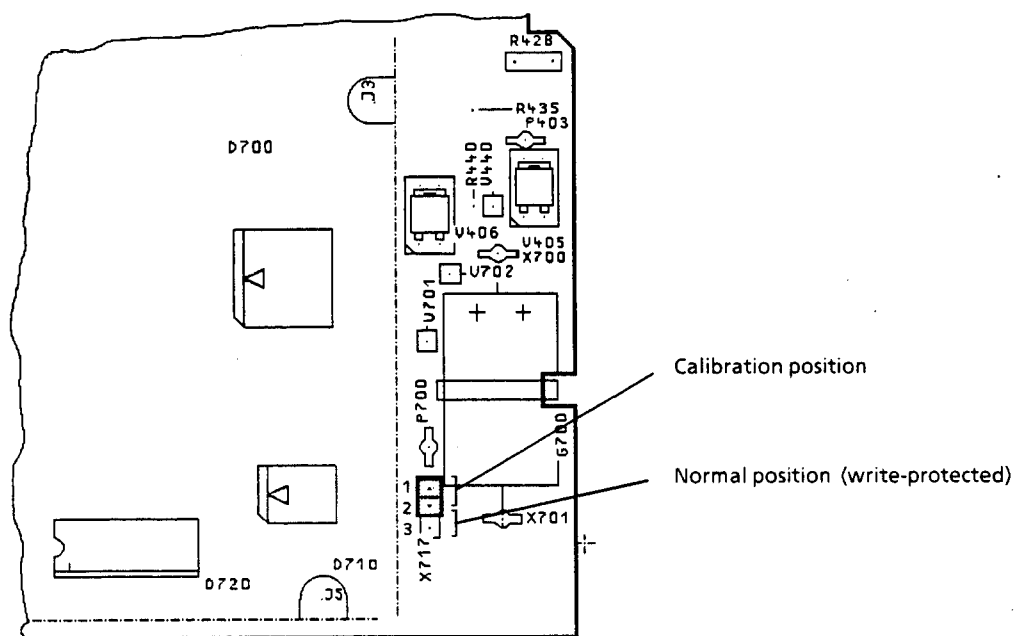

Fig. 6-2 Position of calibration connector X717 (main board)
The correction factors determined during calibration are stored in a write-protected area of the battery-backed RAM. The write-protection must be removed before any calibration or test measurement can be performed. A jumper located on the main board is used to switch off the write protection. **Attention! Observe the safety instructions in chapter 7.3 before opening the instrument.** The main board is easily accessible after removal of the two rear panel feet and the lower instrument cover. Then move the jumper across connector X717 to the calibration position, as shown in Fig. 6-2. After successful completion of the calibration or test measurement, return the jumper to its previous position.
- The menu item "Calibration Dates <D>" permits to read out the dates of calibration of the individual function blocks. It can be called up before or after a calibration. If this item is called up following a complete calibration, the current date is output for all function blocks. In addition, the information whether a complete (C) or only a partial (P) calibration has been performed is also given.
**Attention:** *Before starting any of the above-mentioned calibration functions, be sure that the jumper across X717 has been moved to the calibration position (see Fig. 6-2).*
By pressing the "V" key in the main menu, a mere verification run can be started. This test does not change the calibration data in the RAM. However, the jumper X717 has to be configured nevertheless to the calibration position (→ Fig. 6-2). The verification checks all measurement ranges of the measuring head amplifiers and the function of the temperature sensor input, DC-FREQ input and DC-LEV output.